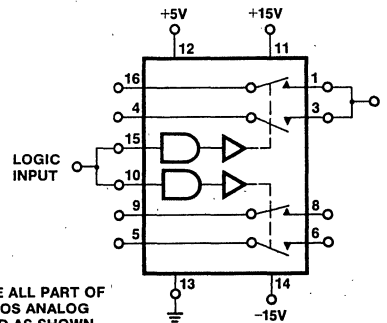

Figure 3B.
* SW₁, SW₂, & SW₃ ARE ALL PART OF A SINGLE IH5043 CMOS ANALOG SWITCH CONNECTED AS SHOWN IN FIGURE 3B